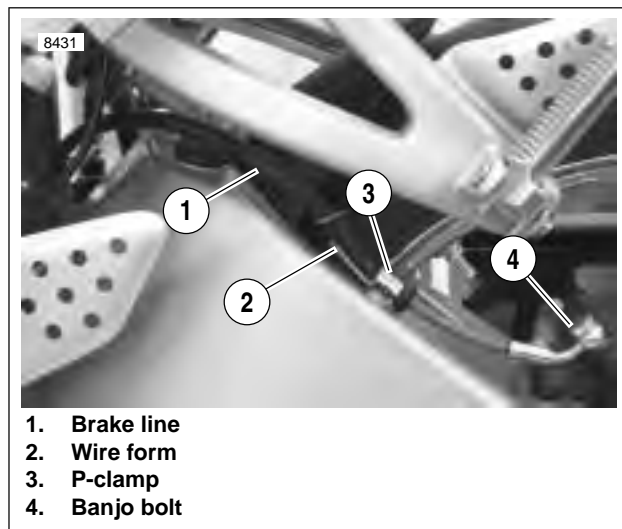

Figure 2-49. Rear Brake Line
6. See Figure 2-49. Remove p-clamp (3) and wire form (2) securing brake line (1) to the left side of swingarm.
3. See Figure 2-49. Secure brake line (1) to left side of swingarm with p-clamp (3), wire form (2), and tighten to 36-60 **in-lbs** (4-7 Nm). See D.1 HOSE AND WIRE ROUTING for brake line routing.